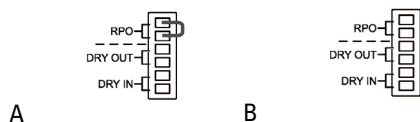

Fig. 52. Connector for the external RPO.
- Either by removing the female connector of the socket where it is inserted. This connector has a cable connected as a bridge that closes the circuit (see Fig. 52-A).
- Or by activating the unit's external button, which belongs to the user and is installed between the connector terminals (see Fig. 52-B). The connection on the button must be in the normally closed (**NC**) contact, so the circuit will open when it is activated.